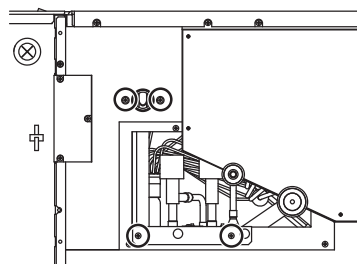

Fig.5
5. Remove the fixing screws holding the drain hose and the drain pump assy shown in Fig. 5.